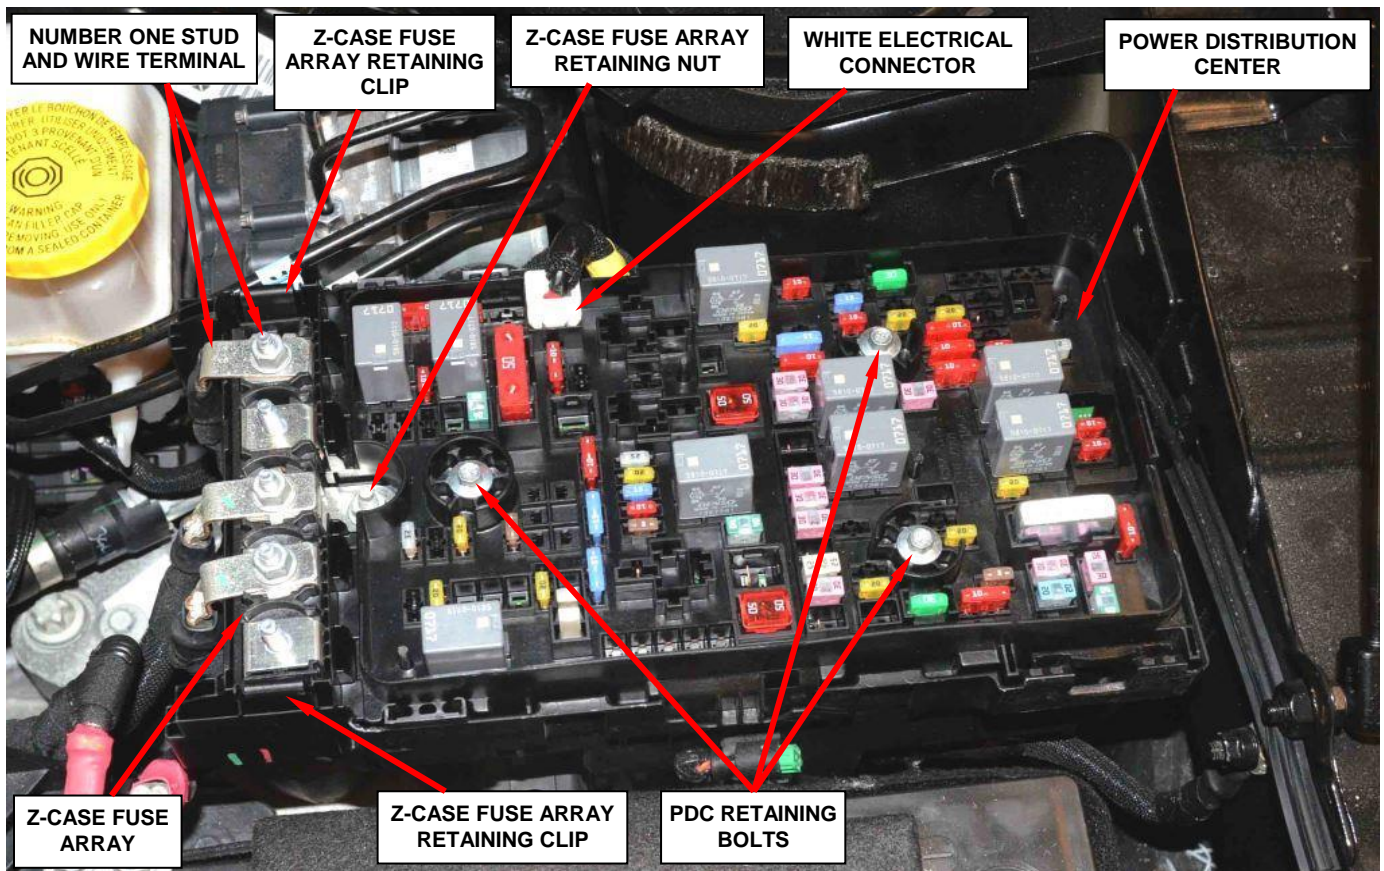

Figure 20 – PDC and Z-Case Fuse Array
5. Remove and save the number one stud wire terminal retaining nut on the Z-case fuse array (Figure 20).
6. Remove and save the Z-case fuse array retaining nut (Figure 20).
7. Disengage the Z-case fuse array retaining clips and separate the Z-case fuse array assembly from the PDC (Figure 20).
8. Disconnect the white electrical connector from the PDC (Figure 20).
9. Loosen the three PDC retaining bolts (Figure 20).